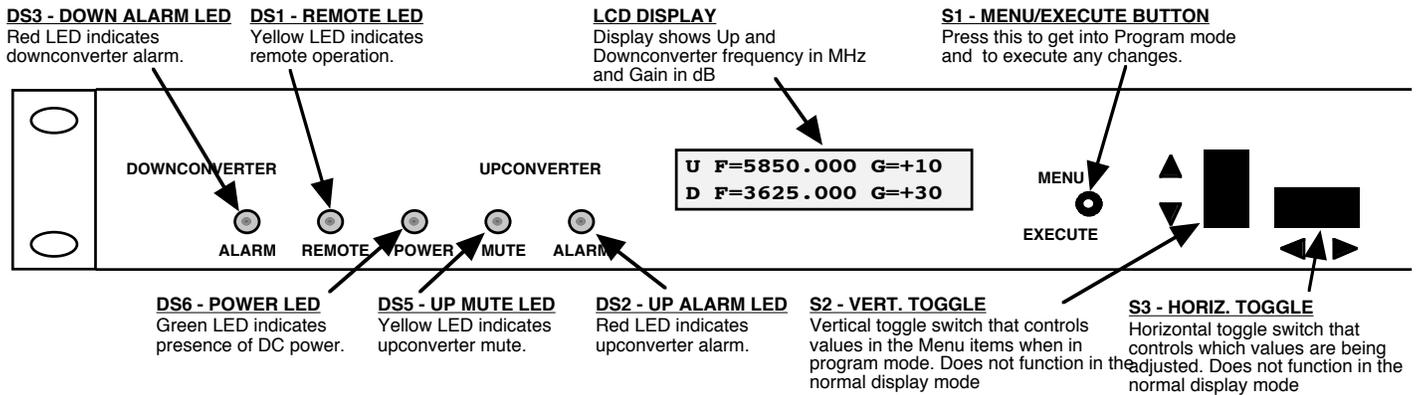

Figure 2.2 Front Panel Controls and Indicators
Figure 2.2 shows the front panel controls and indicators.
7. Be sure DS6 (green, DC Power) is on and DS2 (red, Downconverter Alarm) is off (Figure 2.2).
6. Be sure DS6 (green, DC Power) is on and DS3 (red, Upconverter Alarm) is off (Figure 2.2).
Alarm indications appear on the LEDs (see figure 2.2).